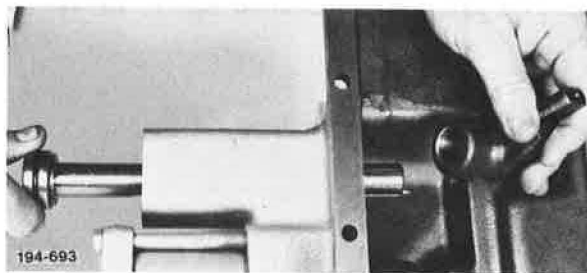

Figure 5-793. Removing Shift Rail and Shifter
5. Slide reverse shift rail rearward out of cover, and, as it moves, remove reverse shifter through bottom opening. See **Figure 5-793**.